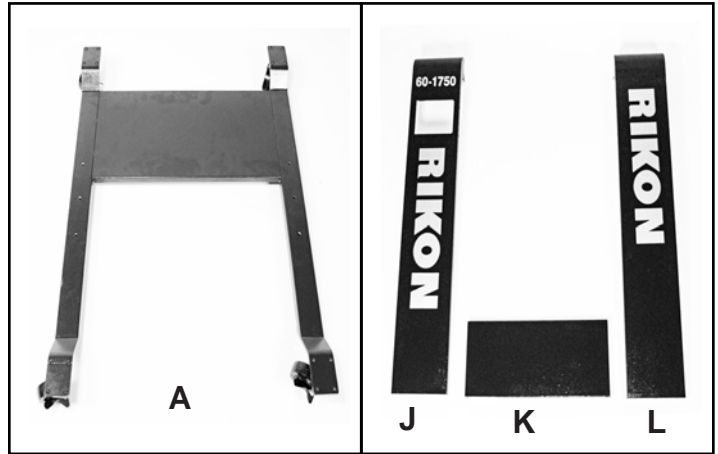

FIG. 1
Locate the following parts in Figure 1:
- Hex Head Flange Bolt M8X16 (x10) (Parts Diagram #45A) Not shown in FIG. 1.